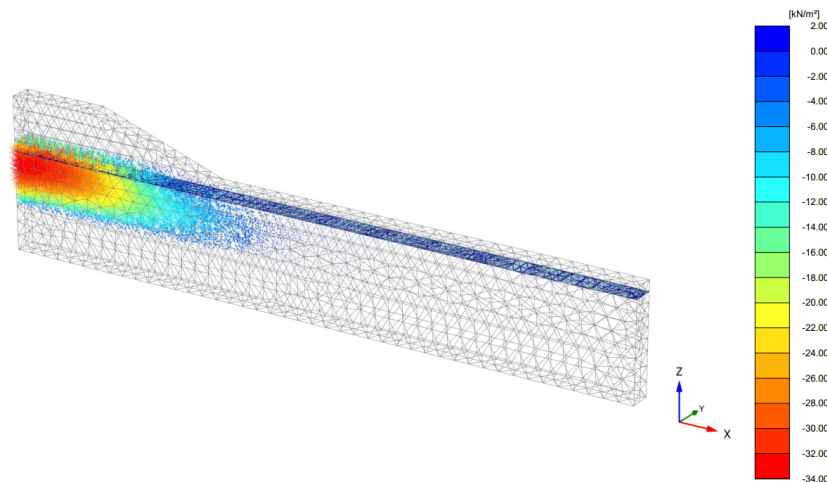

Figure 96: Excess pore pressures after undrained construction of embankment (Phase 3)
2.  Click the **Center principal directions**. The principal directions of excess pressures are displayed at the center of each soil element. For a coloured visualization, in the general toolbar select **Coloured principal directions**. The results are displayed in Figure 96 (on page 123). It is clear that the highest excess pore pressure occurs under the embankment centre.